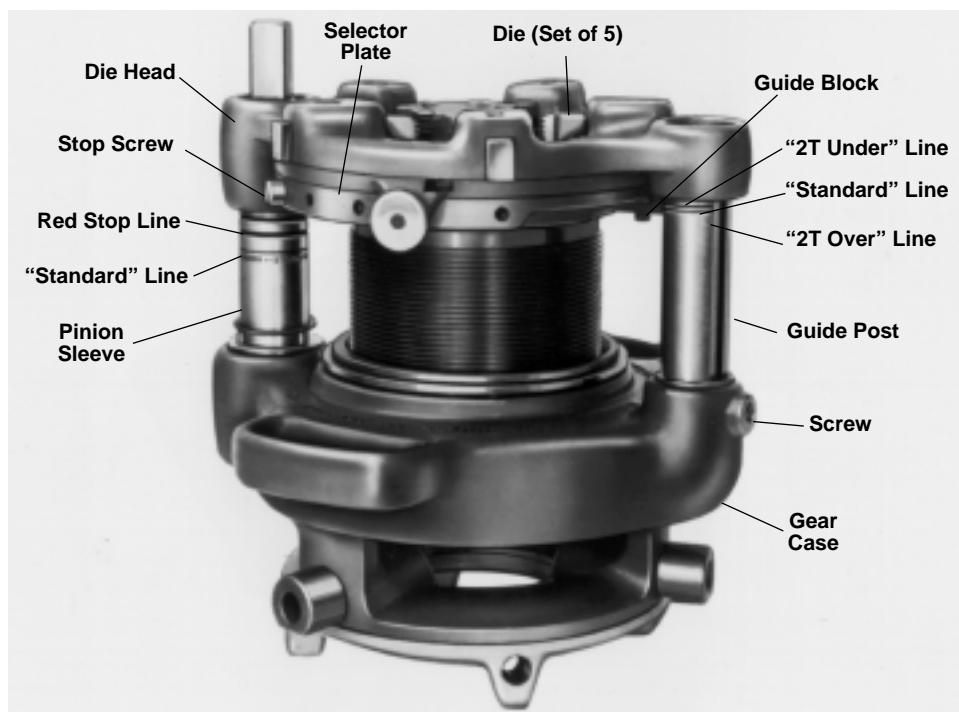

Figure 21 – No. 141 Geared Threader showing Pinion Sleeve and Guide Post Reference Lines
6. 141 and 161 – Release foot switch when red STOP line appears on pinion sleeve (Figure 21).
Grasp workholder and turn square end of drive shaft or turn gear case by hand to respective reference lines on guide post (*Figure 21*).
(*Figure 21*)
1. Remove stop screw (*Figure 21*) from selector plate.
3. Remove worn die set (*Figure 21*) and insert new die set.